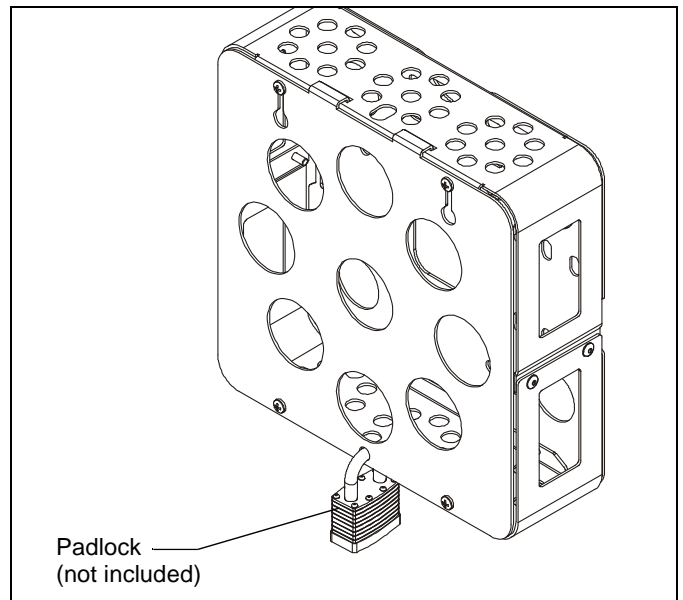

Figure 10
- OPTIONAL:** A padlock (not included) may be added to secure the FCA510/FCA515. (See Figure 10)